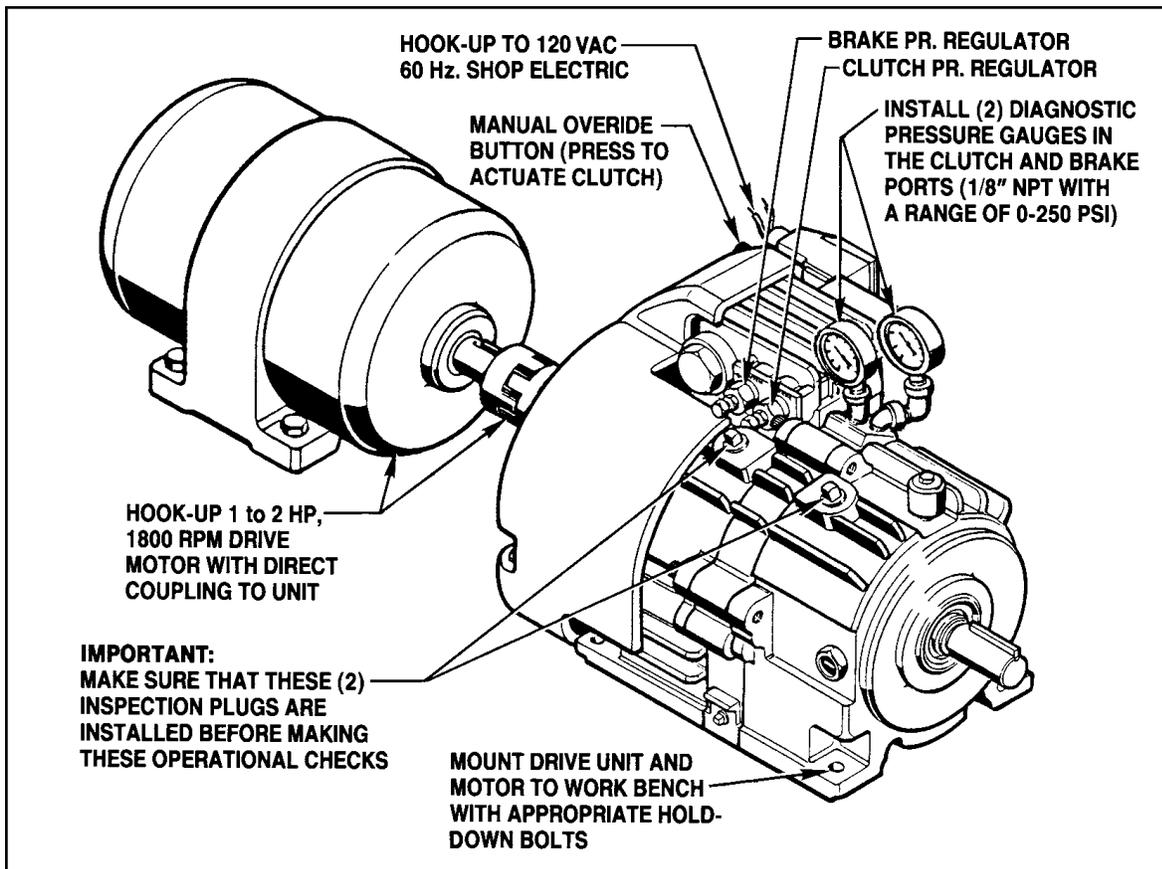

Figure 5.03 - Hydraulic Operational Checks
5-3 INITIAL SET-UP FOR CHECKING HYDRAULIC OPERATION *(See Figure 5.03)*
4. Install (2) diagnostic pressure gauges (0-250 PSI) in the clutch and brake ports as shown in *Figure 5.03*.